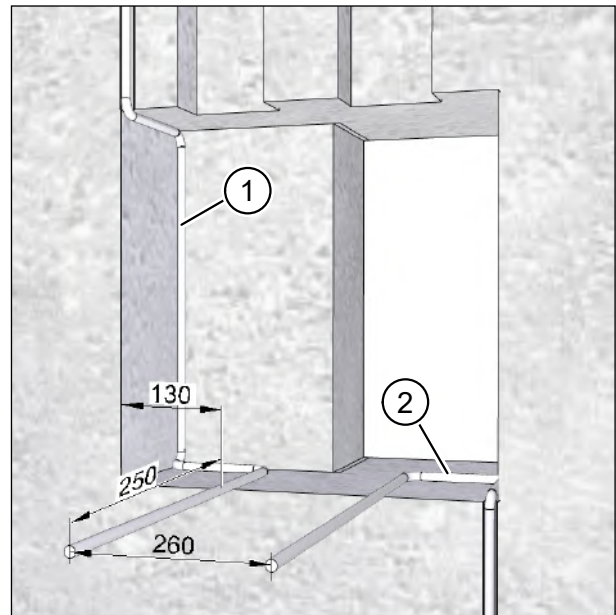

Fig. 15: Running the connecting cables, dimensions in millimetres
- ▶ Run the mains cable (item 1 in Fig. 15) and the control cable, if required (item 2 in Fig. 15). The cables should extend roughly 250 mm beyond the wall.